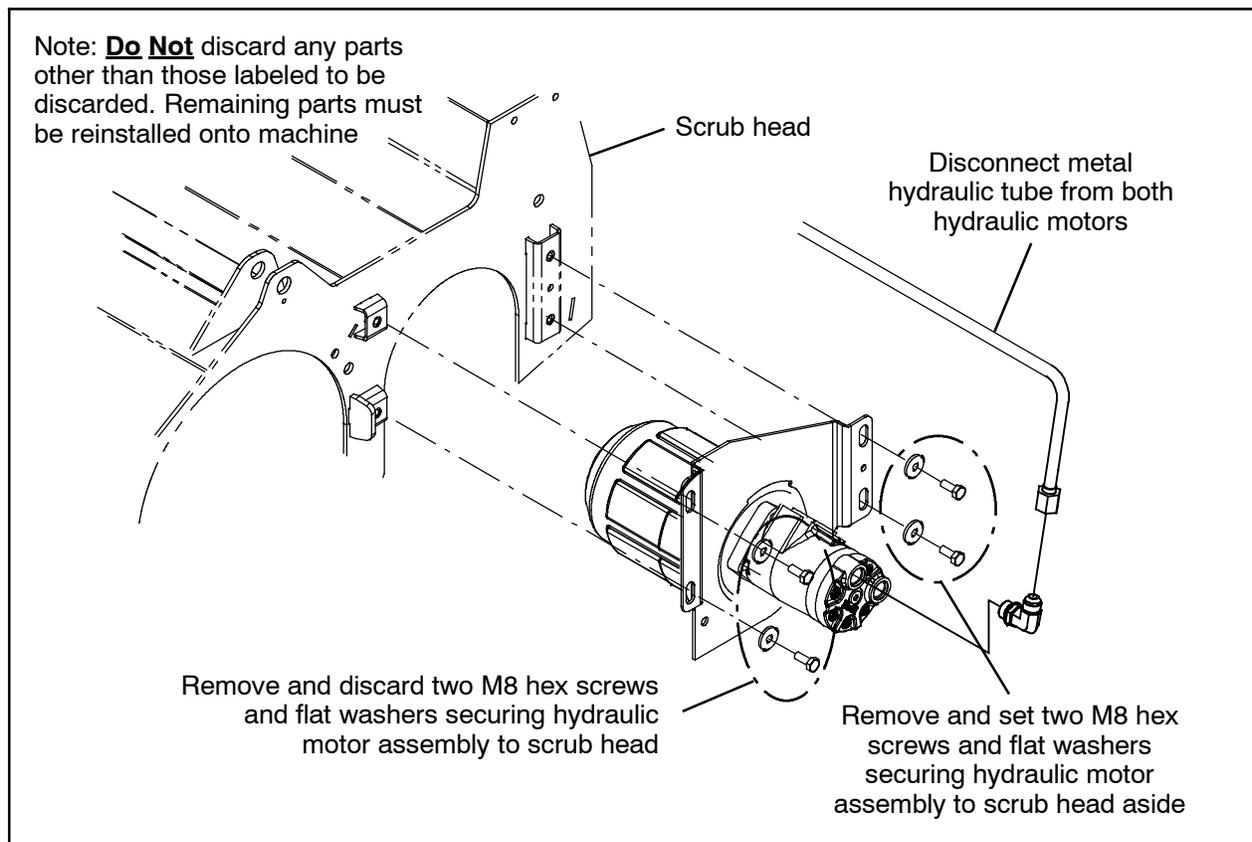

FIG. 4
11. Disconnect the metal hydraulic tubes from both hydraulic drive motors. (Fig. 4)
12. Remove the four M8 hex screws and flat washers securing the hydraulic drive motor to the main scrub head and carefully set the hydraulic drive motor on the floor, away from the main scrub head. Discard the two M8 hex screws and flat washers. Set the two M8 hex screws and flat washers aside. (Fig. 4)